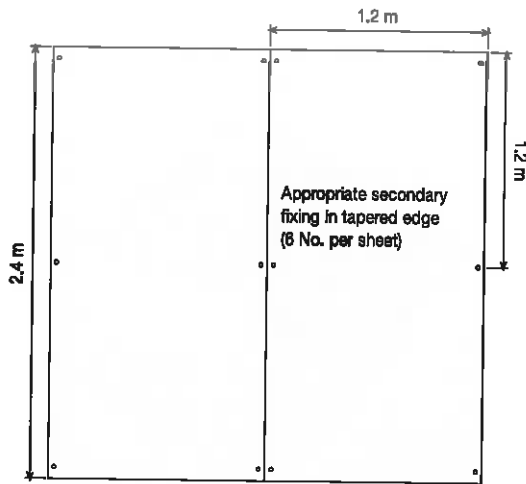

Figure 5 Appropriate secondary fixing pattern for drywall adhesive dab bonding
- Sheets of *Kingspan Kooltherm*® K118 Insulated Plasterboard may be used to line ceilings (see Figure 5).